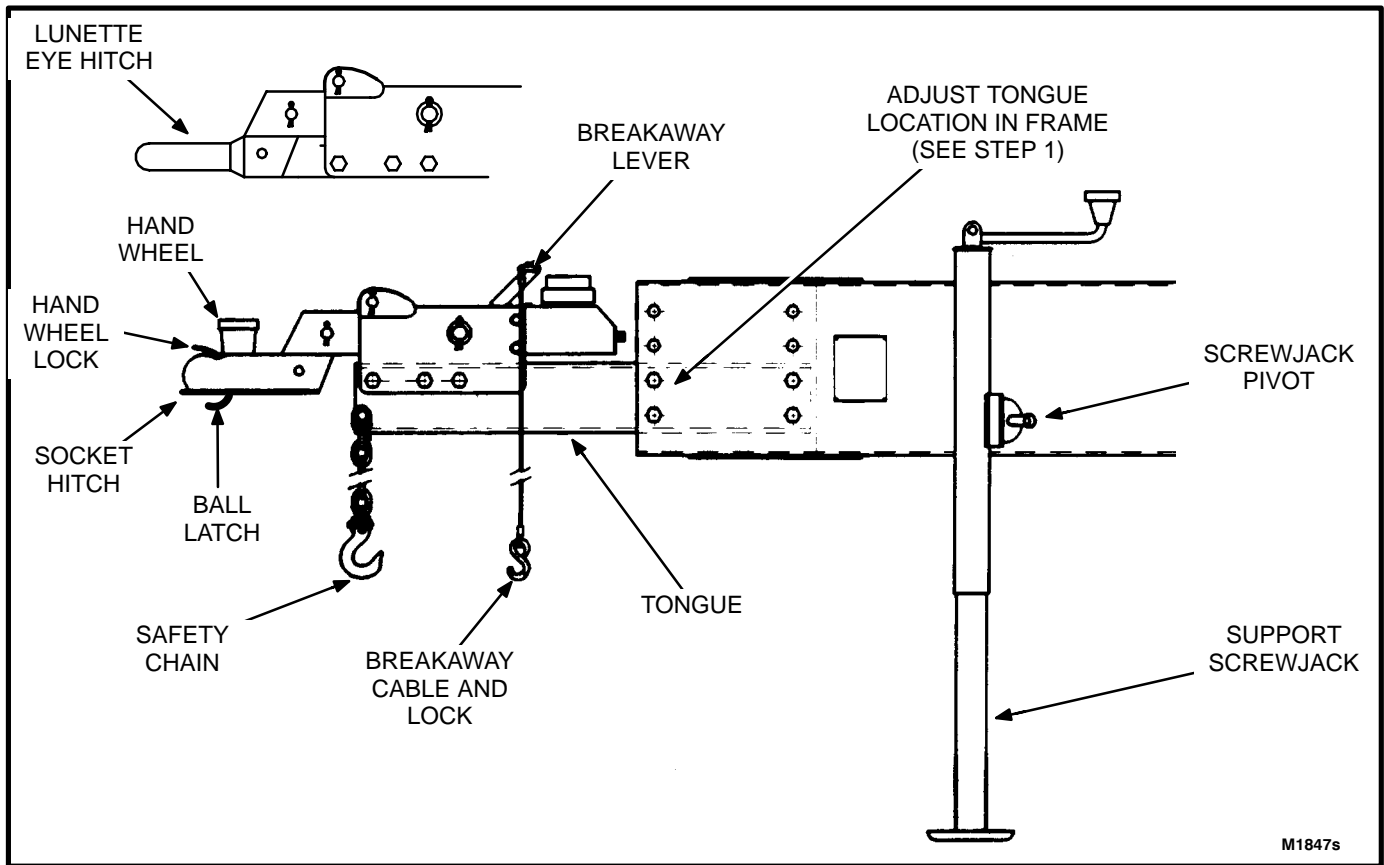

FIGURE 3-2. QUIET SITE TRAILER TONGUE
1. With the tongue of the trailer positioned at the same height of the towing vehicle hitch, check the weight of the trailer hitch. The trailer hitch weight should be between 400 and 600 lbs. (180 - 270 kg). If hitch weight is not within these limits, adjust the height of the tongue (see Figure 3-2) as follows:
- Connect the breakaway S-hook to a secure point on the towing vehicle (one of the safety chain hook locations may be used). Should the breakaway be accidentally applied while unhitching, pry the spring clip out of the notch to release the lever (see Figure 3-2).